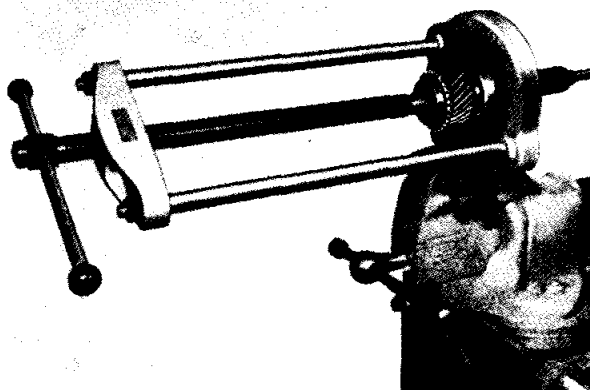

Fig. 22 Fitting Bearing on to Constant Pinion Shaft with Churchill Press No. S4221 and Adapter from Set No. S4615.
- (j) Assemble oil thrower on to constant pinion shaft and press ball race on the shaft as shown in Fig. 22, ensuring that this goes right home and that in